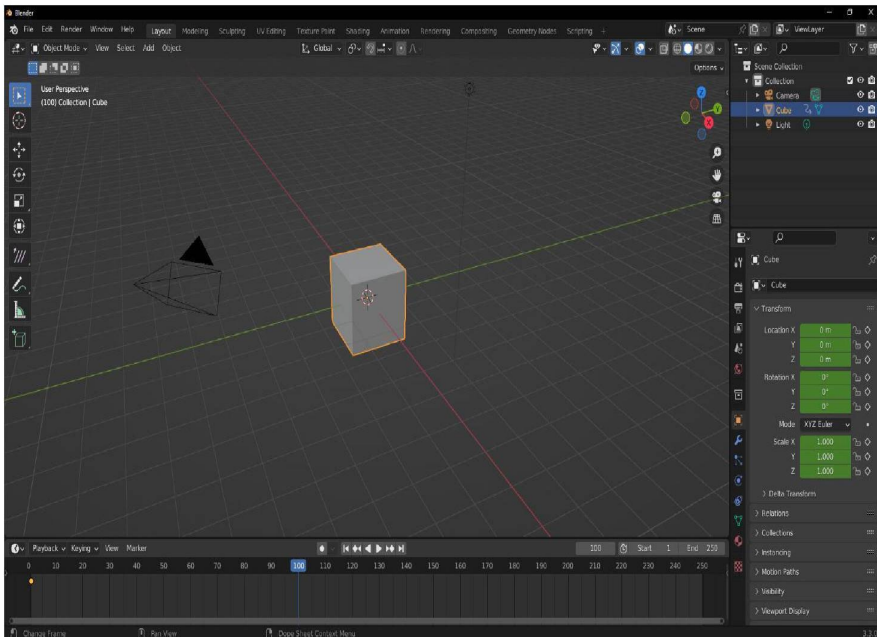

Figure 8.4: Animation play head moved to frame 100 in the Timeline
4. Once we have a **Keyframe** recorded on the first frame of the animation, we can click and drag the play head – appearing as a rounded square icon with a thin line extending below it around the number 1 on the **Timeline** – to the right until it highlights the frame number 100 as shown in *Figure 8.4*: